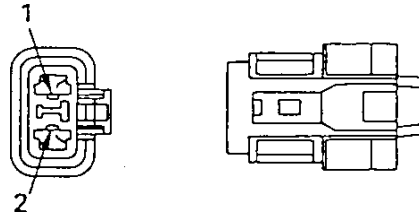

Fig. 5
- 3) Using a circuit tester, measure the voltage between the Terminal No. 1 and the Terminal No. 2 (refer to Fig.5) of the connector disconnected according to the above procedure 1) to see if the voltage readings are as follows.